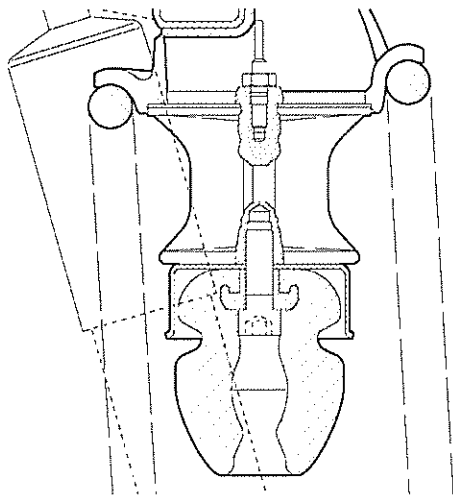

Fig 6 Rubber hollow suspension
- 7.1 Smear cheese head screw thread with Loctite anti-seize compound, then smear screw head with silicon paste and insert screw into rubber hollow suspension (see Fig 6).